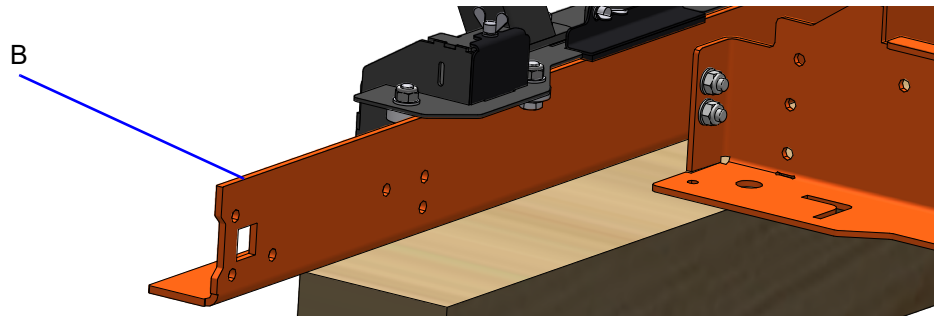

FIG. 4-2
After each use of the sawmill, remove sawdust from the track surfaces, bed rails and track rollers. Use a light-grade sandpaper or emery cloth to sand off any rust and other adhering particles from the mast track surfaces (B). See figure 4-2.
See figure 4-2.